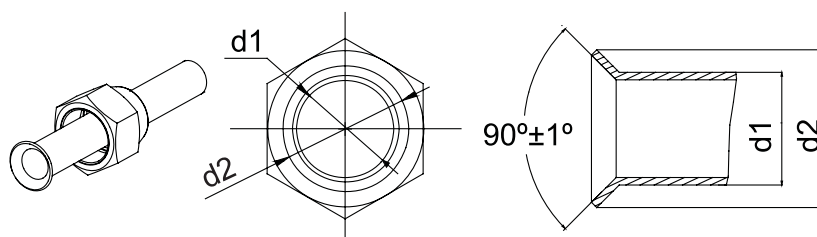

Figure 3-2-3
- (1). Cut the connection pipe with the pipe cutter and remove the burrs.
- (2). Hold the pipe downward to prevent cuttings from entering the pipe.
- (3). Remove the flare nuts at the stop valve of the outdoor unit and inside the accessory bag of the indoor unit, then insert them to the connection pipe, after that, flare the connection pipe with a flaring tool.
- (4). Check if the flare part is spread evenly and there are no cracks (see Figure 3-2-3).